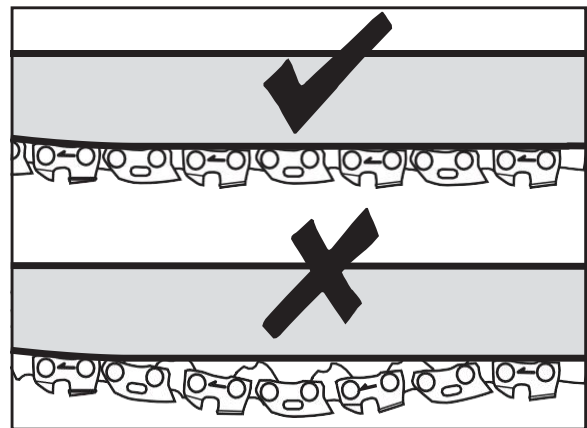

Fig. 2
2. Rotate the chain tensioner to adjust the chain tension. A properly tensioned chain should have no sag (Fig. 2) and should only be able to be pulled 1/8 inch (3 mm) away from the chain bar of the saw.